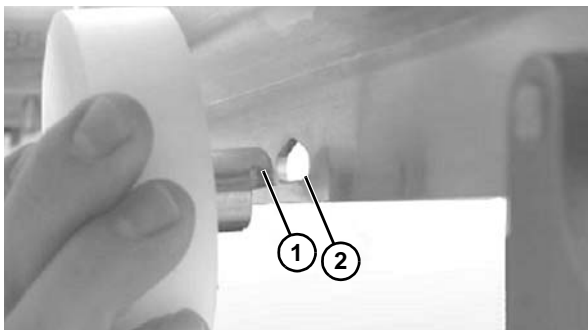

Figure 23
1. Insert the notched end of the return shaft (Figure 23, item 1) through the small hole (Figure 23, item 2) in the inside of the conveyor frame.